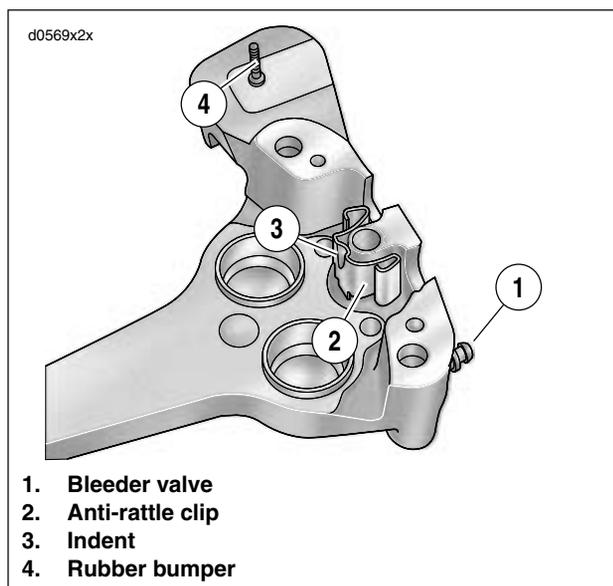

Figure 2-60. Anti-rattle Clip
- Anti-rattle clip orientation matches Figure 2-60.